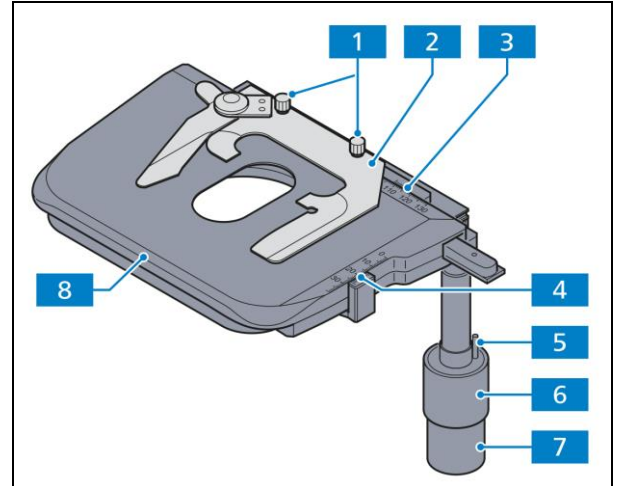

Fig. 2-14 Mechanical stage 75x30 R with specimen holder
- Mechanical stage (Fig. 2-14/8) for holding and positioning specimens with a specimen holder.
- Specimen holder (Fig. 2-14/2) for single-handed operation (replaceable after loosening the two knurled screws, Fig. 2-14/1)
- Coaxial knurled knobs for X (Fig. 2-14/7) and Y (Fig. 2-14/6) adjustment on the right-hand side (height and friction adjustable with dedicated tool, Fig. 2-14/5).
- Vernier scale for display of the adjustment range in X (Fig. 2-14/3) and Y (Fig. 2-14/4) direction.